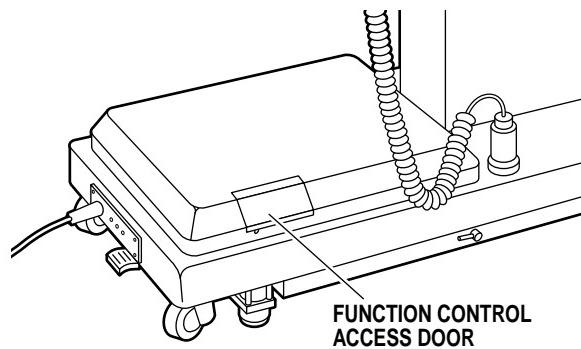

Figure 3-3. Emergency Controls Location
a. The emergency back-up control switches are located under the access door on the service access cover in the table base. See figure 3-3.